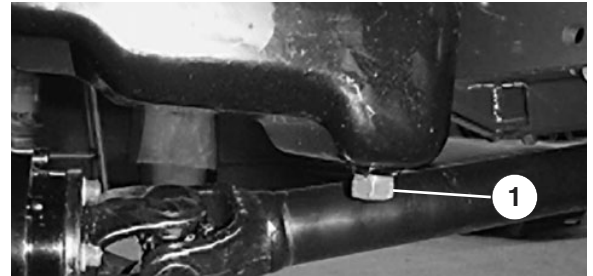

Figure 23
2. Open the hood. Set drain pan under the oil pan and in line with drain plug (Fig. 23).